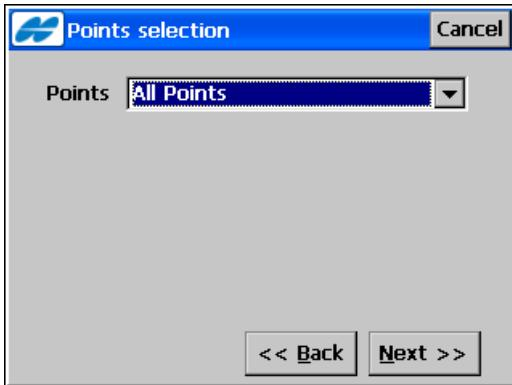

Figure 4-39. Points Selection
- **Points selection** for Points (Figure 4-39 on page 4-34)
On the **Point Selection** screen (Figure 4-39 on page 4-34), select the filter type to select the exported Points (Figure 4-39).